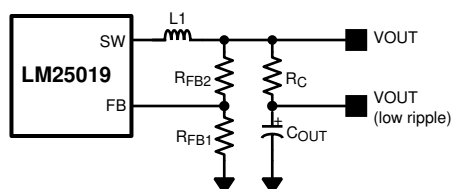

图 7-2. Low Ripple Output Configuration
This regulator regulates the output voltage based on ripple voltage at the feedback input, requiring a minimum amount of ESR for the output capacitor (C_{OUT}). A minimum of 25 mV of ripple voltage at the feedback pin (FB) is required for the LM25019. In cases where the capacitor ESR is too small, additional series resistance can be required (R_{C} in 图 7-2).
For applications where lower output voltage ripple is required the output can be taken directly from a low ESR output capacitor, as shown in 图 7-2. However, R_{C} slightly degrades the load regulation.